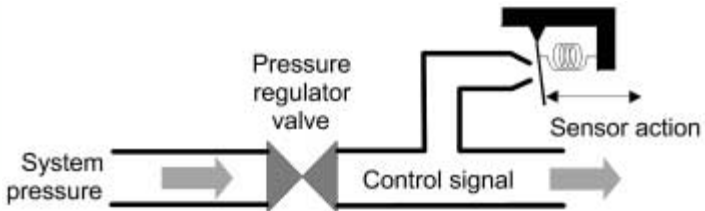
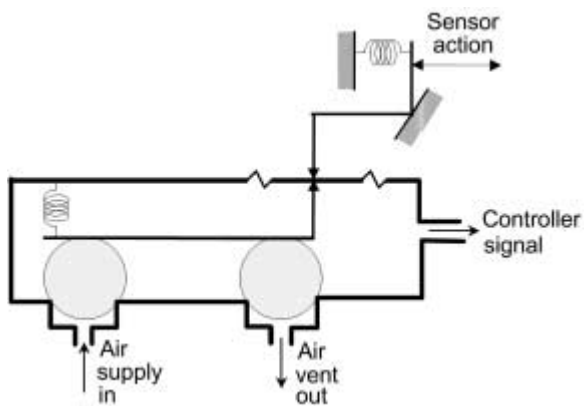

FIGURE 5.37 Bleed-type pneumatic temperature sensor.
FIGURE 5.38 Non-bleed pneumatic controller.
*Pneumatic controllers* are broken down into two different types: *bleed* and *non-bleed*. In bleed type controllers (for example, Figure 5.37), the air is constantly leaking out and must be replenished by the compressed air system. In a non-bleed controller (Figure 5.38) the sensor action is relayed to a closed volume that does not allow